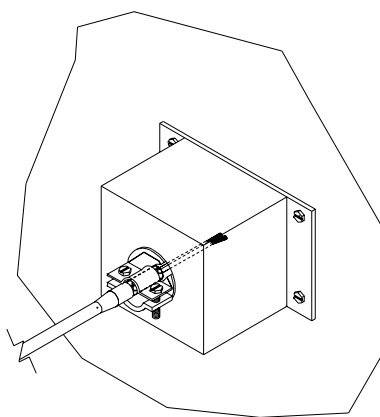

Figure 2-5. Properly Installed Shield Cable
8. Tighten down the cable clamp onto the shielding, as shown in Figure 2-5.